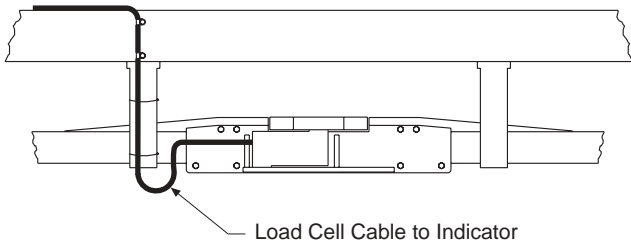

Figure 4: Suggested Load Cell Cable Attachment
6. Route the 25' load cell cable to the desired location for the digital weight indicator. **Do not cut the cable**, as the load cell is temperature-compensated for exactly 25' of cable. It is recommended that the cable be attached to the rail assembly to prevent the possibility of damage. See Figure 4.